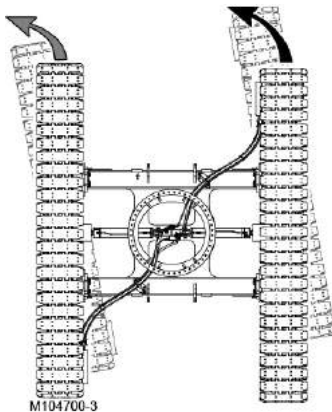

Figure 3-17. Travel Left (gradual turn)
9. To make a GRADUAL LEFT TURN (Figure 3-17), move both crawler handles to front from the neutral position.